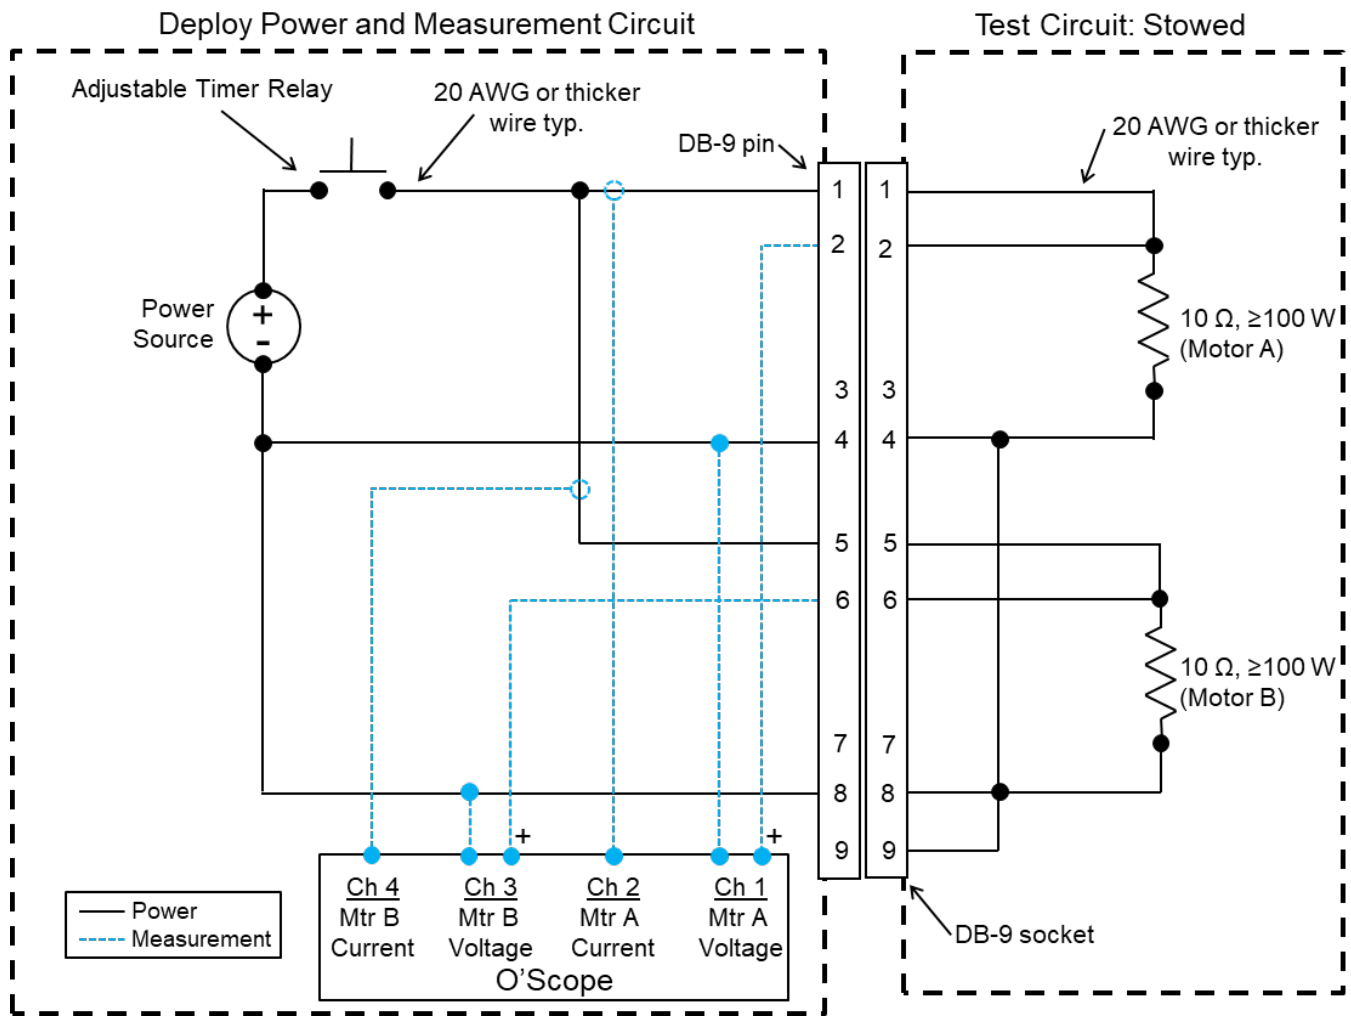

Figure 11-1: Deploy test circuit #1
11.1.2	Set up the Deploy Power and Measurement Circuit portion of Deploy Test Circuit #1 per Figure 11-1.
11.1.4	Set up the Test Circuit: Stowed portion of Deploy Test Circuit #1 per Figure 11-1 and connect to the Deploy Power and Measurement Circuit .